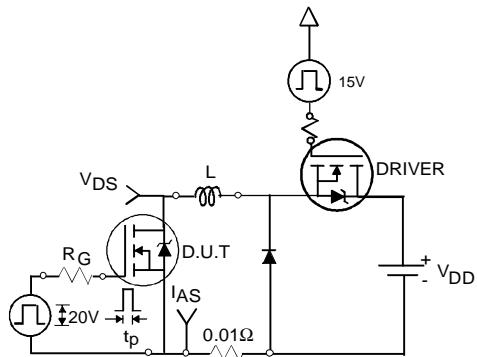

Fig 12a. Unclamped Inductive Test Circuit
- ③ $I_{SD} \leq 78\text{A}$, $dI/dt \leq 320\text{A}/\mu\text{s}$, $V_{\text{DD}} \leq V_{(\text{BR})\text{DSS}}$, $T_J \leq 175^\circ\text{C}$
- ④ Pulse width $\leq 400\mu\text{s}$; duty cycle $\leq 2\%$.
- ⑤ $C_{\text{oss eff.}}$ is a fixed capacitance that gives the same charging time as C_{oss} while V_{DS} is rising from 0 to 80% V_{DSS} .
- ⑥ Calculated continuous current based on maximum allowable junction temperature. Package limitation current is 75A.
- ⑦ Limited by $T_{J\text{max}}$, see Fig.12a, 12b, 15, 16 for typical repetitive avalanche performance.
3. Equation below based on circuit and waveforms shown in Figures 12a, 12b.